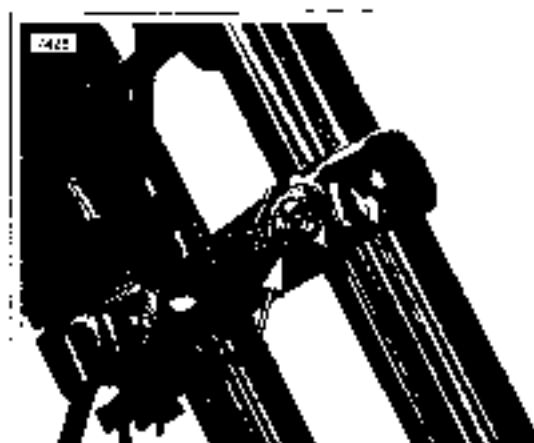

Figure 1-48. Lower Triple Clamp Pinch Bolt (Typical)
5. See Figure 1-48. Loosen lower triple clamp pinch bolts.